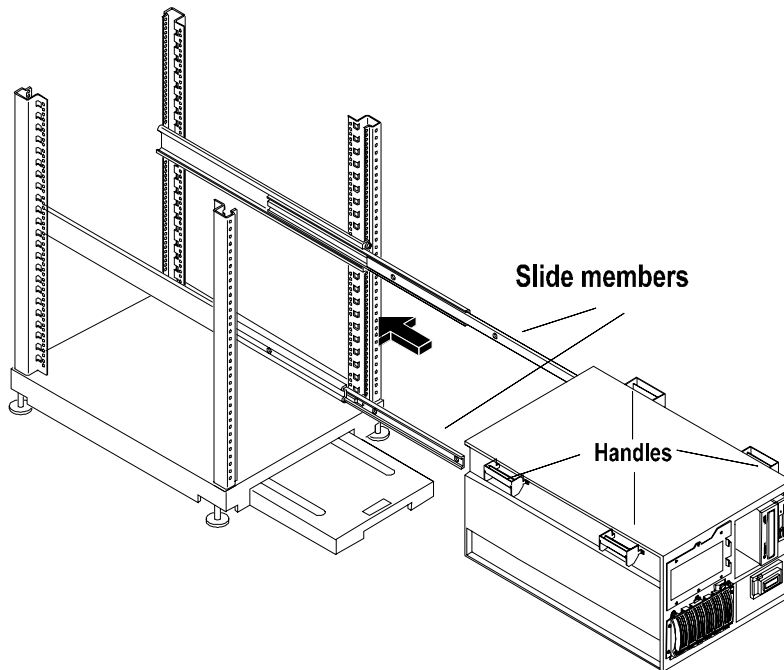

Figure 8-9. Mounting the NetServer on the Slides
5. Lift the NetServer by the handles until the handles are above the extended slide members (see Figure 8-9).